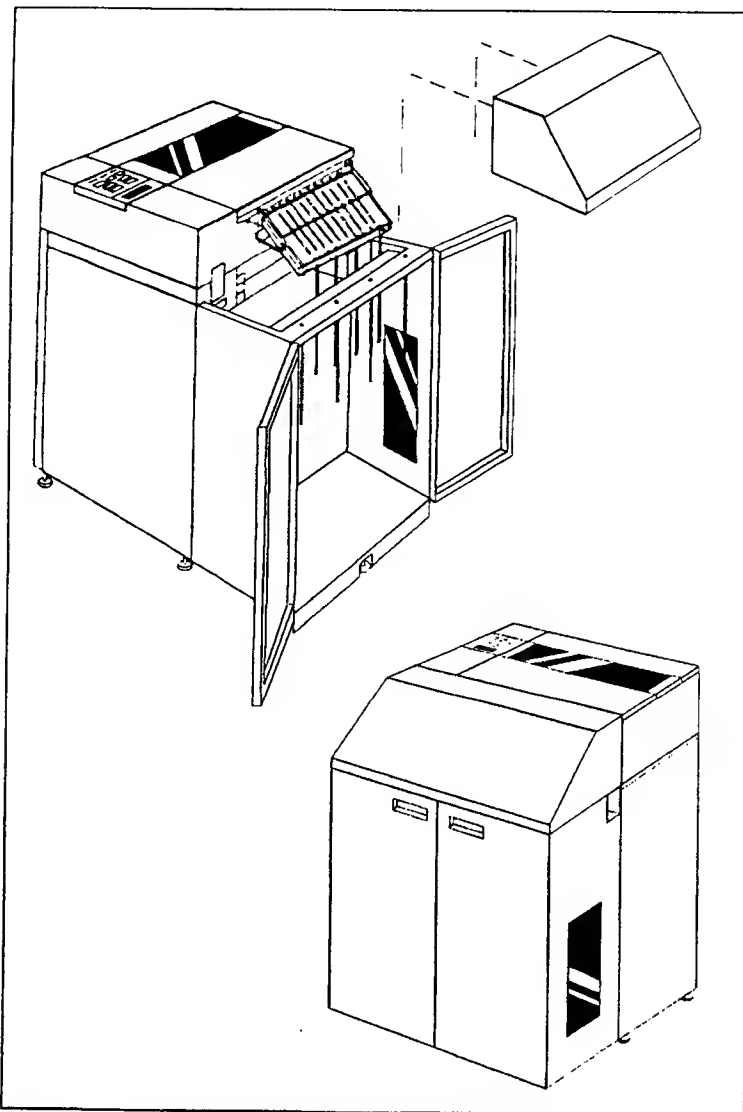

Figure 2-20. Installing the wire form and shroud.
- i. Install the Shroud Assembly. Slide the shroud directly over the wire form (Figure 2-20). Push firmly until it snaps into place. Make sure the shroud pins slide into the main weldment pin holes and the shroud fits tight against the back of the printer and flush with the top of the printer.